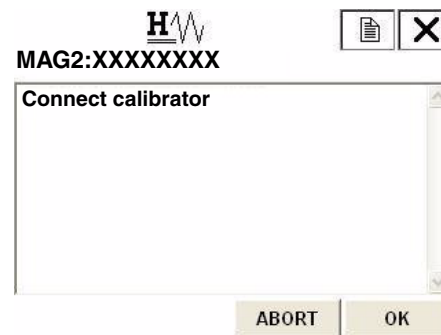

Figure 115.
3. Once the display as shown in Figure 115 appears, move the arrow key up or down to select a gain to adjust, and then press F4 (ENTER). This time, select 0 m/s.